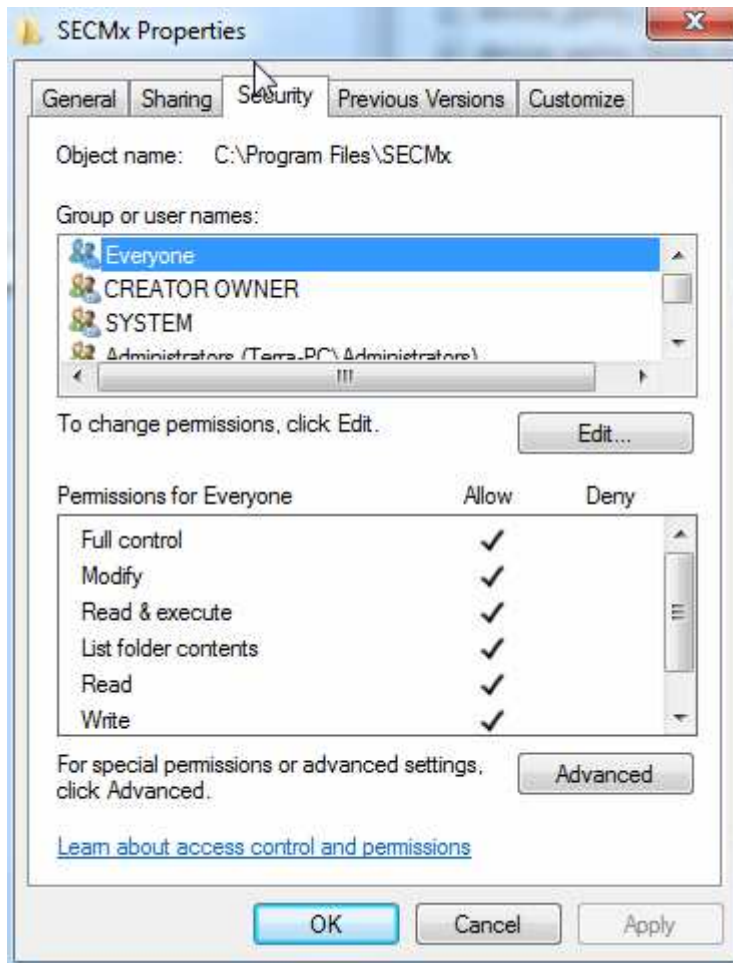

Fig. 4: Correct file access rights.
- Close the Window. Afterwards the access right should look like in Fig. 4.